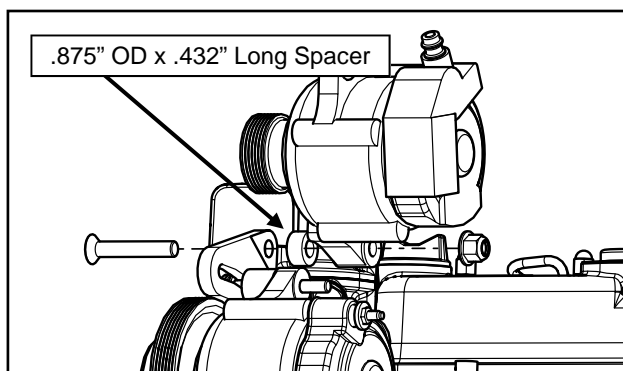

Fig. 2.12 (Auxiliary Alternator, Spacer & Hardware)
2.12 Position the auxiliary alternator, spacer and hardware as shown in Fig. 2.12.